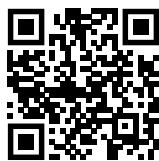

Fig. 155
- Отворете Liebherr SmartMonitoring Dashboard. (вжк Fig. 155)